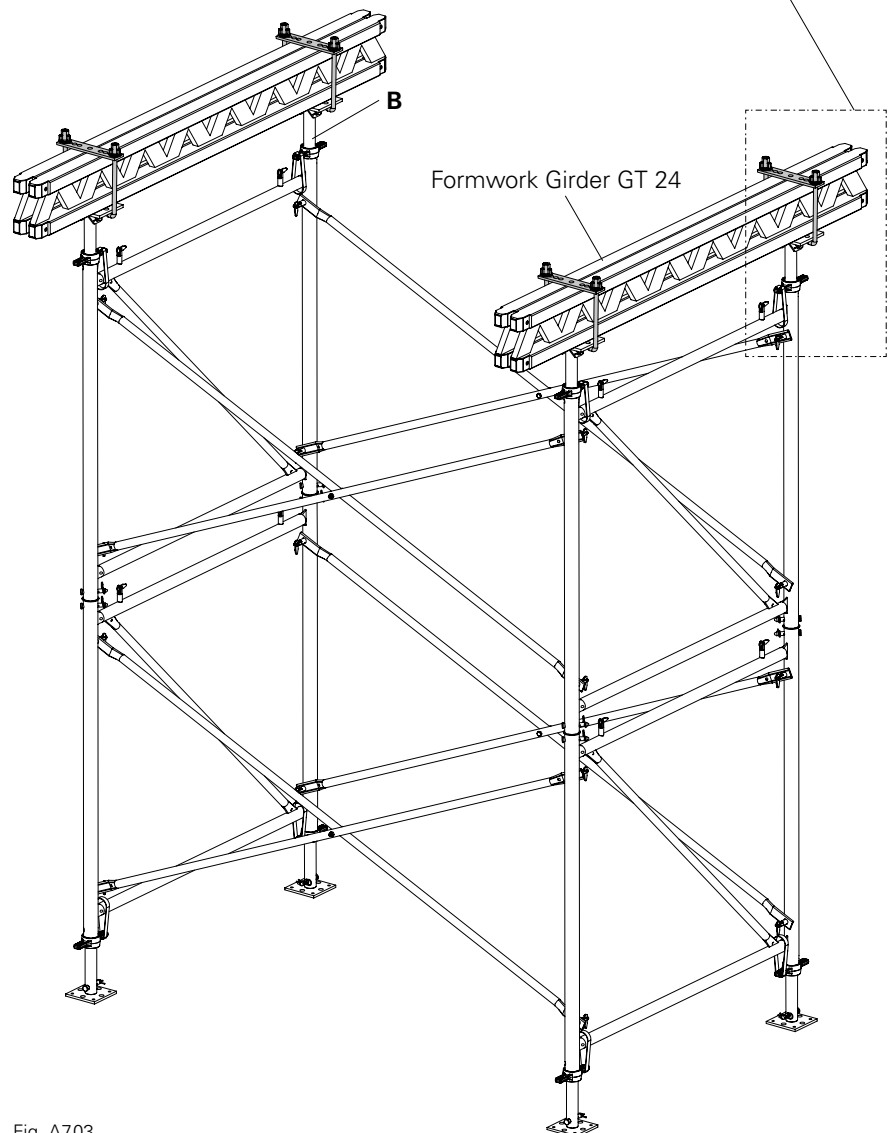

Fig. A7.03
1. Place the Formwork Girders GT 24 on the head plates for Spindle Tube TR 48 (10).
2. Place the yoke plate (22) on the Formwork Girders GT 24.
3. Slip 2x Yoke Clamps 24 (24) through the head plates for Spindle Tubes TR 48 (10) and Yoke Plates (22).
4. Fasten the Yoke Clamps 24 (24) with 2x Cam Nuts DW 15 (25).
- (Fig. A7.03 + A7.03a)